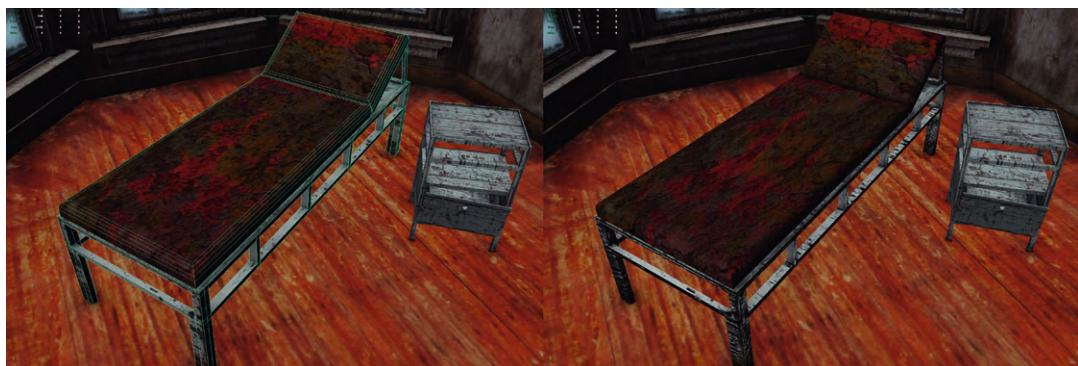

FIG 6.33 Results of Crazy Bump.
Step 58: Apply the new normals map to the Bump Mapping channel for your material in Maya. To do this, select the material in the Hypershade by double-clicking it. Then in the Attribute Editor, apply the normals map the same way we did the color or transparency maps. With Viewport 2.0 active, the results should be immediate (Fig. 6.33).